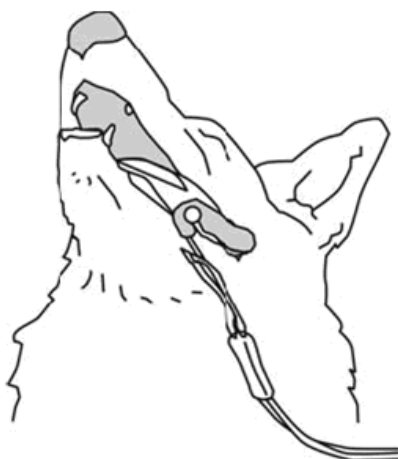

Figure 6.24 Diagram on Pulse Oximetry Probe and Finger Positions
2. Insert the forefinger or middle finger or ring finger of the subject into probe by referring to Figure 6.24.